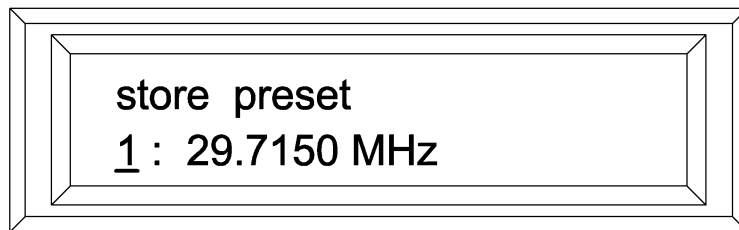

Figure 3.10. The store preset display.
Step 6. Press the “■” button to enter the store preset menu (*figure 3.10*).